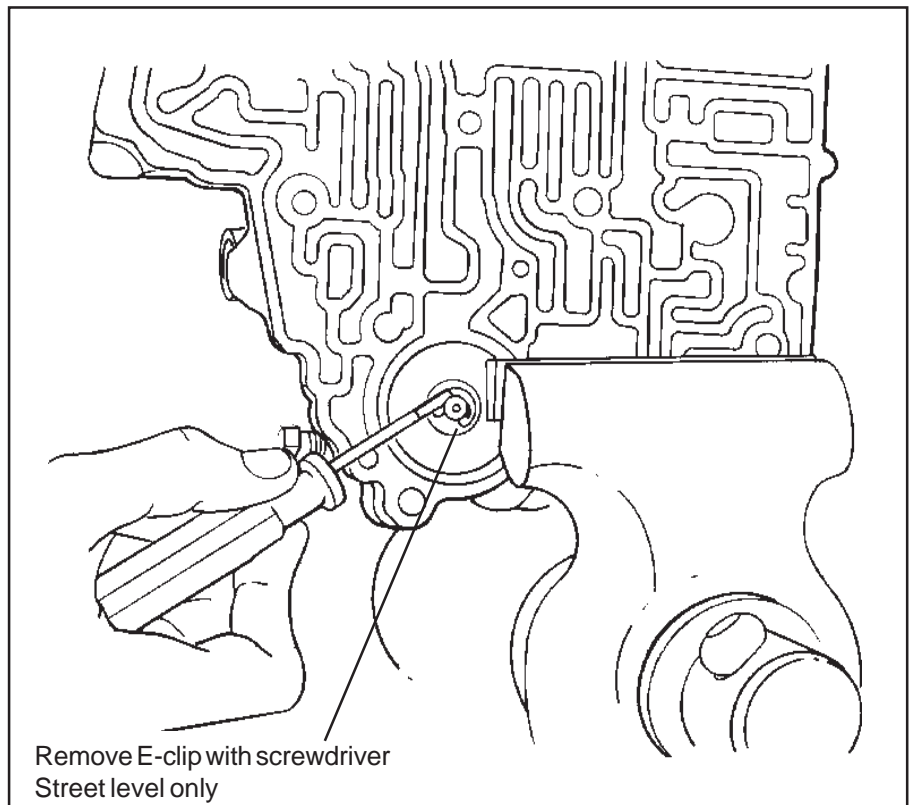

Figure 8
**Street:** Very carefully clamp the valve body in a vise and compress the accumulator enough to remove the E-ring (**See Fig. 8**). Open the vise slowly and remove the valve body. Remove the accumulator spring and reinstall the piston without the spring. Install the E-ring.